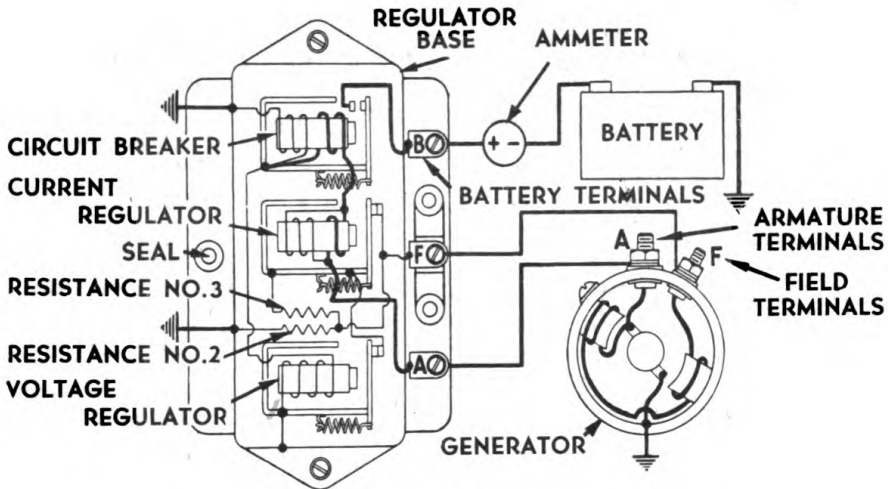

Figure 21—Diagram of Voltage Regulator
b. **Check Battery and Line Voltage**—(Figure 21.) The battery is the source of electrical energy for starting the engine. The amount of charge to the battery is governed by the regulator unit which, in turn, functions according to the state of charge of the battery. Excessive voltage will cause distributor points to burn and cause hard starting. The voltage should be checked at the battery terminal of the voltage regulator with an accurate voltmeter.